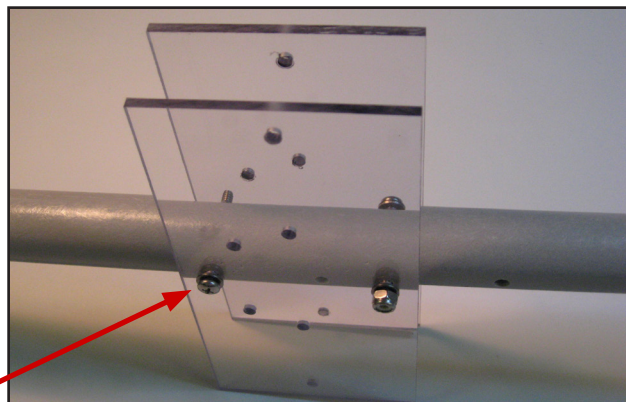

Fig. 50
- Position the remaining Element Mounting plate on the bottom of the Boom End Sub-Assembly. Pass the screw installed during the previous step through the hole in this plate as indicated in Fig. 50. Then place a No. 10 SS Flat Washer over the screw and fasten with a 10-24 SS Anti-vibration Hex Nut. Tighten Finger tight.
- Select one (1) 10-24 x 2" Machine screw and one (1) No. 10 SS Flat washer. Place the washer on the screw. Then insert the screw and washer through the bottom Element Mounting Plate. Insert the screw in the Boom End Sub-Assembly through the 4th hole as indicated in Fig. 50.